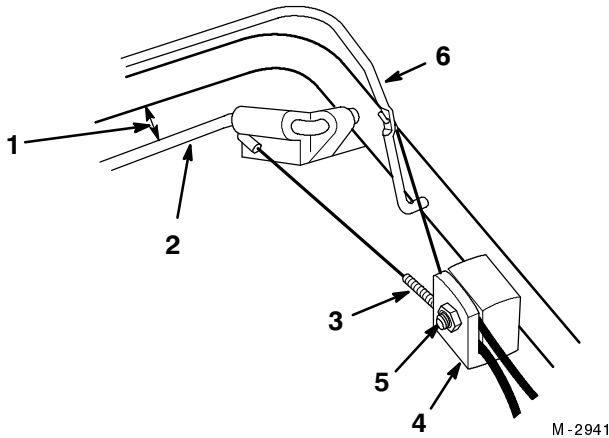

Figure 23
2. Loosen the cable support nut (Fig. 23).
3. Hold the self-propel drive control 1 to 1 1/2 inches (25 to 38 mm) from the handle (Fig. 23).
4. Pull the cable jacket down (away from the control) to remove the slack in the cable (Fig. 23).